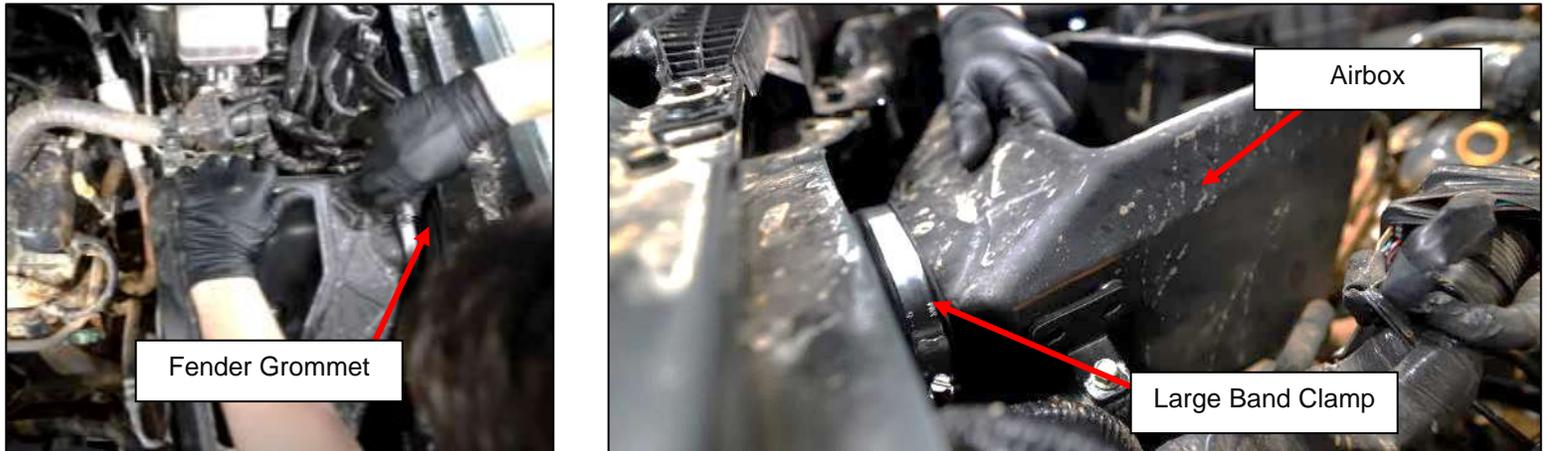

Figure 20
30. Locate your Z1 Airbox and the Large Band Clamp. Place the Large Band Clamp on the Fender Grommet installed in *Step 27*. Reinstall the Z1 Airbox and fit it to the new Fender Grommet as shown. Once positioned, tighten the Large Band Clamp, securing the Airbox in place. *Figure 20*.